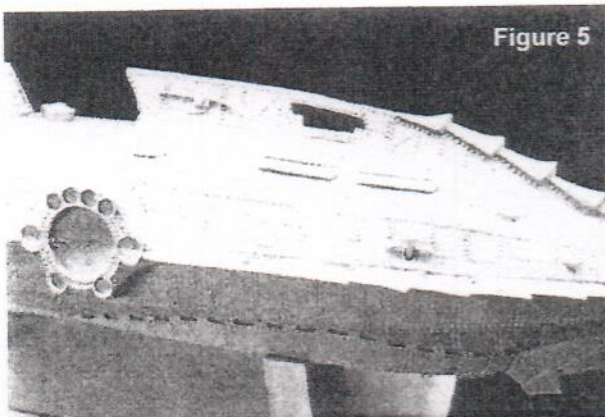

Figure 5
5. Add a small drop of cyanoacrylate into each of the anchor cups and position the white metal anchors in, until they are seated as shown in figure 5. Turn the submarine over and using medium cyano gap filling glue, add a small drop at the top and bottom of the white metal prop ring. Note the ring has a grooved edge that has the thicker end towards the body. Next, carefully add each of the 4 white metal prop supports into their respective mounting holes. Make sure the each is at the following positions when viewed from the rear: 2 o'clock, 4 o'clock, 8 o'clock, and 10 o'clock. (45 degrees between each top and sides)